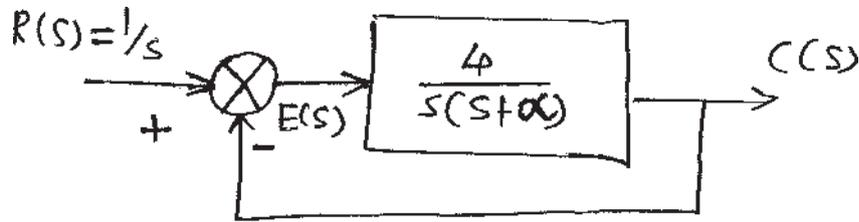

Fig. 5
b) Consider the feedback system shown in figure 5. The output required to track unit step. Find the value of  $\alpha$  (alpha) that minimizes integral square error. [8]